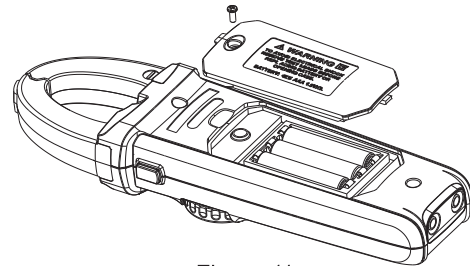

Figure 11
X. Maintenance and upkeep (see Figure 11)